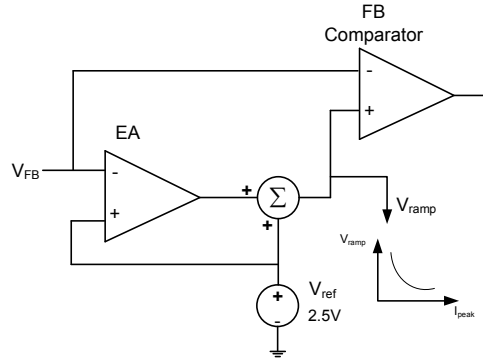

Figure 3: EA and Ramp Compensation
The MP15X features an internal error amplifier (EA) and ramp compensation (shown in Figure 3) to ensure accurate CV regulation.
The MP15X samples the feedback voltage 6µs after the internal MOSFET turns OFF. The buck converter voltage ripple changes with the load condition. If the FB voltage equals the fixed voltage reference, the converter will have poor load regulation. Under this condition, the MP15X has an internal EA to change the FB comparator reference to achieve good output regulation. When the sampled voltage differs from the 2.5V reference, the EA contributes an error signal to the 2.5V reference voltage, thus changing the effective reference as shown in Figure 3. The EA’s high DC gain minimizes the steady-state output voltage error. At the same time, an exponential voltage sinking source pulls down the reference voltage. The ramp compensation changes the FB comparator’s reference voltage based on the load condition. This ramp compensation results in a kind of feed-forward compensation: As the load current increases, the sinking current decreases exponentially, which means the comparator reference increases slightly, resulting in better load regulation. Under maximum load condition, the compensation is about the 1mV/µs.